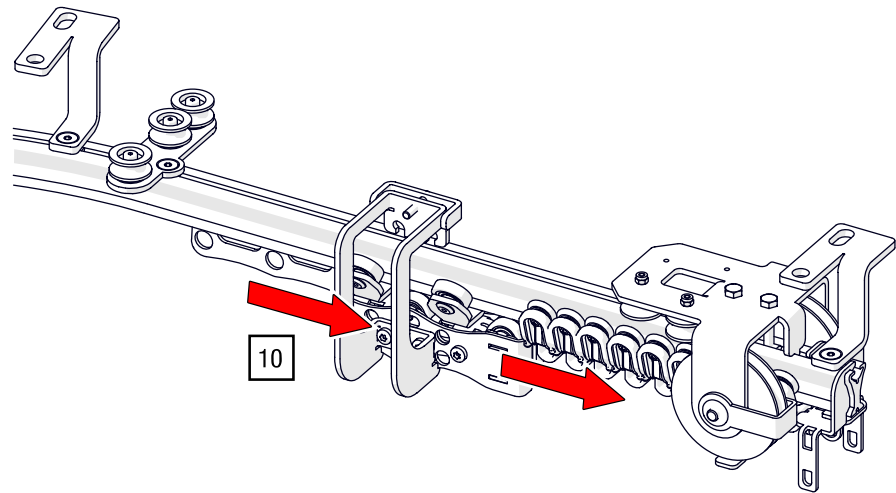

Fig. 76: Top cord operation – Push runners together
10. For a two-part curtain, push the master runners and runners together as far as possible in the parking area on each side (see Fig. 76).